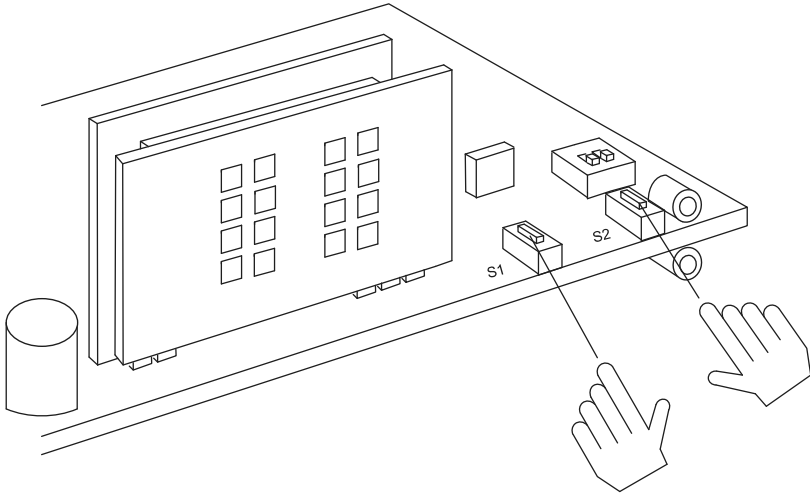

Figure 10
2. Press S1 and S2 buttons simultaneously to enter the configuration mode (Fig. 10);